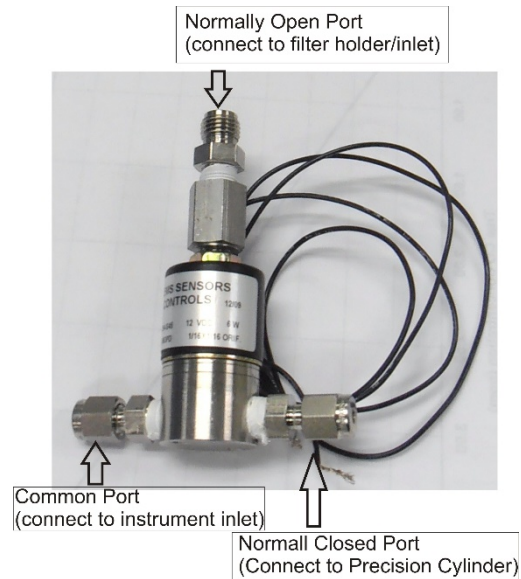

Figure 3. Solenoid Valve Connections.
2.5.3 Connect the normally open port on the solenoid valve to the sample inlet on the left rear of the Picarro analyzer. Connect the remaining (middle) port on the solenoid valve to the sample manifold as shown in Figures 3 and 4.